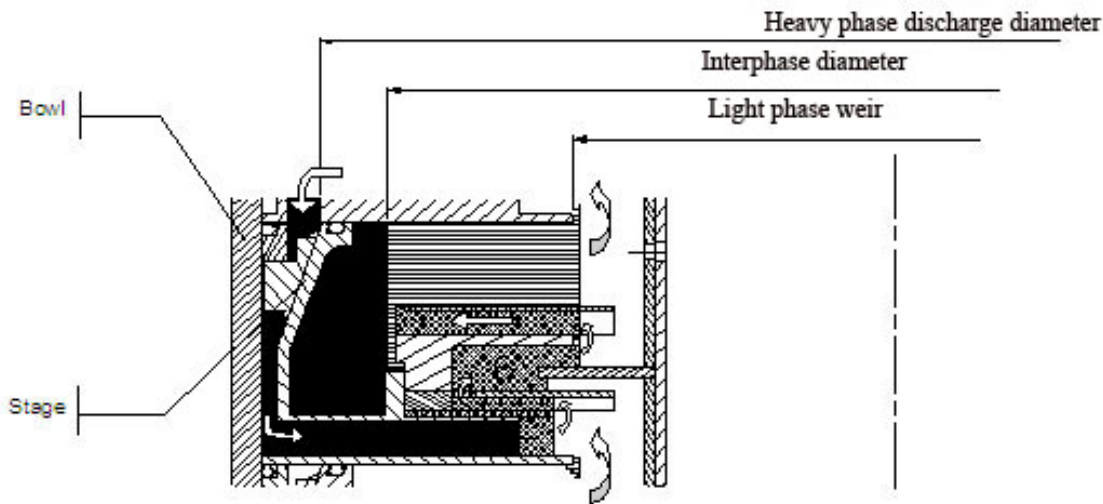

Figure 3: Cutaway diagram of a single extraction stage in a multistage extractor
- **a settling chamber** in which the liquids are separated by the centrifugal force generated by the rotating bowl. The heavier liquid (shown in black on Figure 3) occupies the outer portion of the bowl. The light liquid (shown in gray on Figure 3) occupies the inner portion of the bowl.